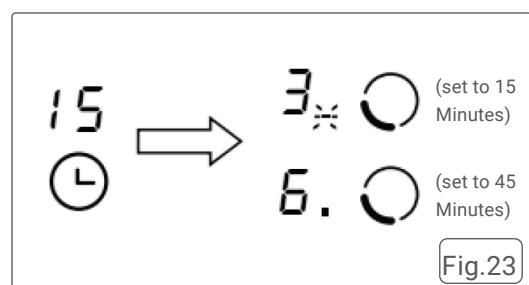

Fig.23
1. When timers are set for multiple cooking zones, red dots will appear on the displays of the corresponding zones. The timer display will show the shortest remaining time, and the dot of the corresponding zone will flash. Fig.23